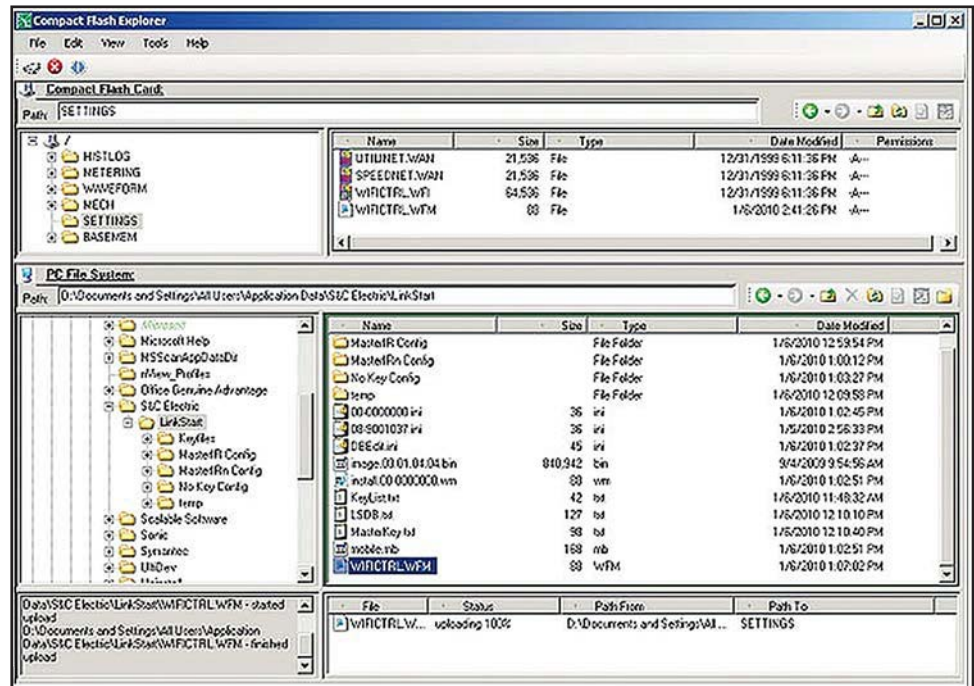

Figure 82. The Compact Flash Explorer screen.
- STEP 5.** Navigate the PC file system to the location of the renamed WIFICTRL.WFM configuration file. Users may need to allow “view system files” in the **Tools>Options** menu. See Figure 82.